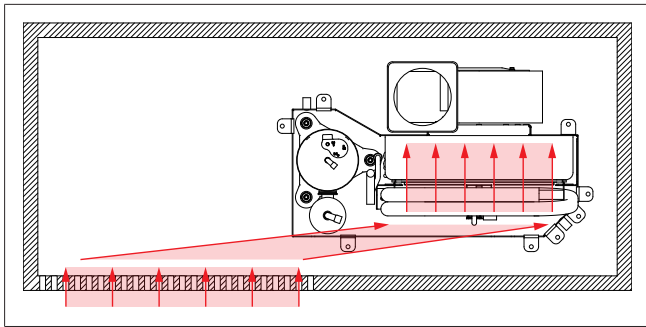

Fig. 7 Mount air inlet grille offset
- ▶ The air inlet grille should be mounted offset so that the air flowing in does not flow directly into the evaporator inlet. This enables the intake noises from the fan to be considerably reduced (see Fig. 7).